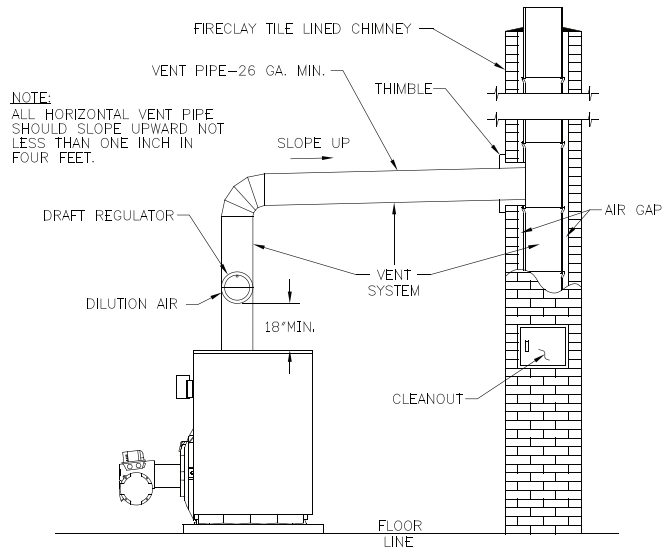

Figure 7: Recommended Smokepipe Arrangement and Chimney Requirements
H. INSTALL SMOKEPIPE — The Advantage Series boiler should be vented into a fireclay tile-lined masonry chimney or chimney constructed from type L vent or a factory built chimney that complies with the type HT requirements of UL103. The chimney and vent pipe shall have a sufficient draft at all times, to assure safe proper operation of the boiler. See Figure 7 for recommended installation.